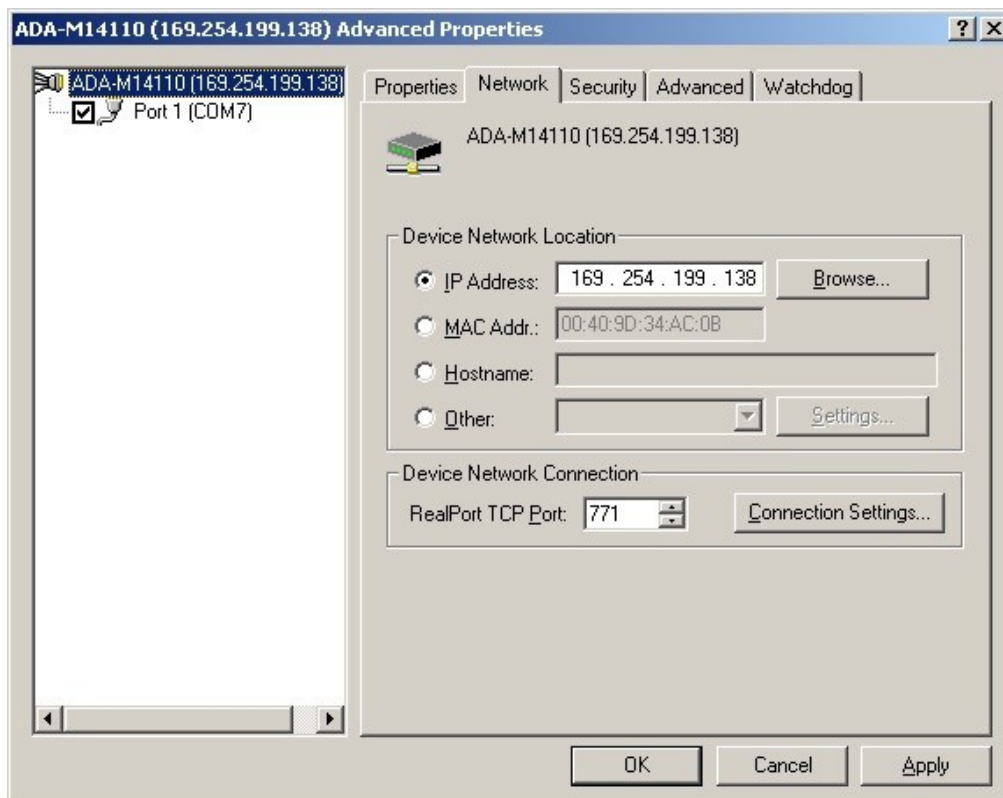

Fig. 33. Example configuration of multi-port serial adapter
8. **Select IP address, MAC, DNS server for communication with virtual port driver**. In the window **[Advanced Properties]** click **[ADA-14110]** and then select **[Network]** (Fig. 33), and set the **IP address, MAC Address** or **DNS name** of the wireless serial server for communication with virtual port driver.